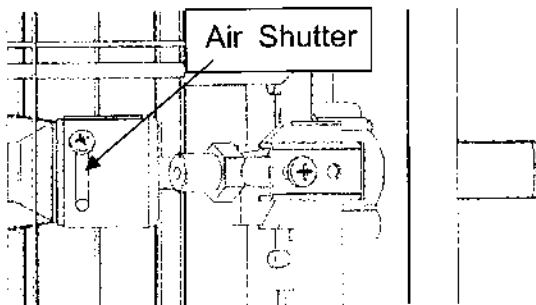

Fig. 26 Air Shutter
- The shutters are located on the end of the gas burners underneath the firebox. See Fig. 26.